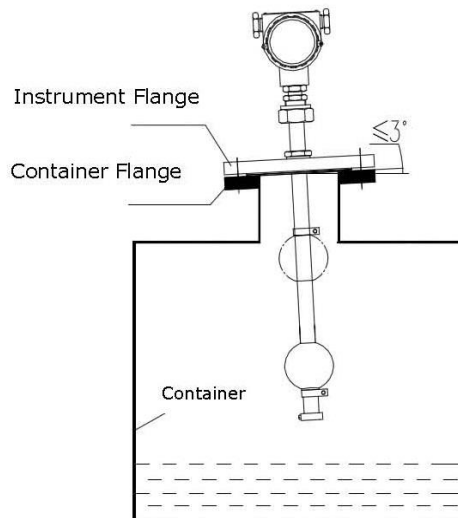

Figure 5
6.2.1 Before installation, determine if the container flange is level (see Figure 5), and ensure that the flange level is within 3 °.